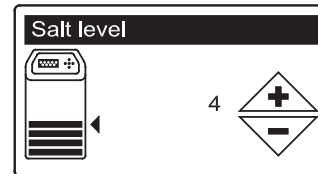

FIG. 30
- 9. SALT LEVEL** Press the UP (▲) or DOWN (▼) buttons to set the salt level (See Figure 30). It should match the lowest number visible on the brinewell above the salt.